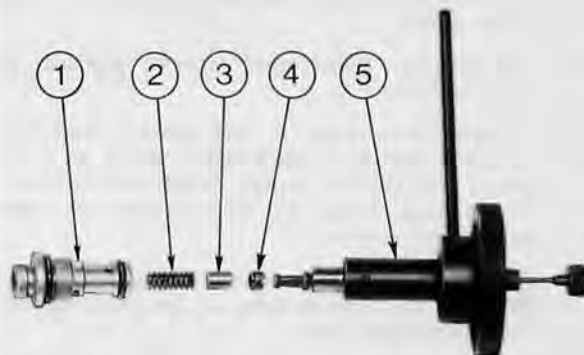

Fig. 6. Supply pump pressure control valve
7. Enter the split nose of Special Tool No. KDEP 1027 into the control valve, Fig. 6.